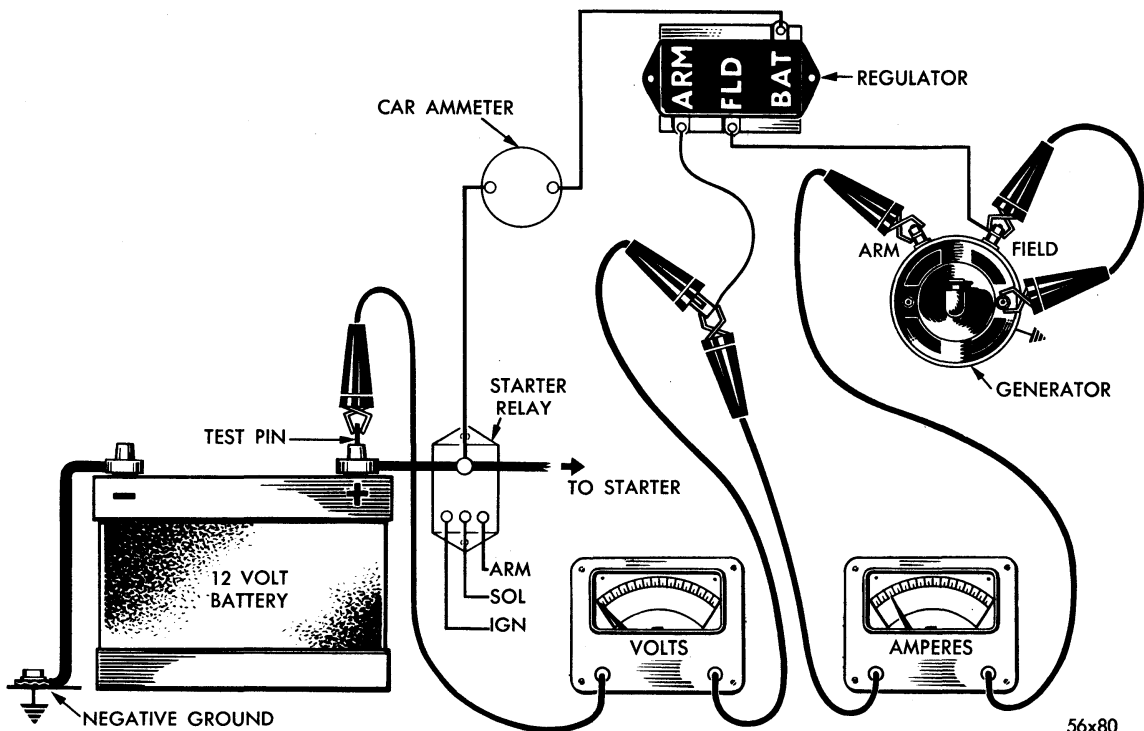

Fig. 6—Charging Circuit Resistance Test
18. CHARGING CIRCUIT RESISTANCE TEST (FIG. 6)
Connect test equipment, as shown in Figure 6. The ammeter is connected at generator and voltmeter is attached to armature lead so that any voltage loss in test ammeter will not register on voltmeter. Start engine, increase engine speed until 10 amperes register on test ammeter, and read voltmeter. The voltage shown will be voltage drop of charging circuit and should not exceed .50 volt. A voltage drop that exceeds .50 volt indicates high resistance from a loose connection, burned relay contacts or a partially broken wire. Where voltage drop exceeds .50 volt, a point-to-point check is required. Move one of voltmeter leads back along circuit toward other test lead connection, checking voltage at each terminal connection. A sudden drop in voltage indicates that high resistance is present between that point and last point tested. Clean relay contacts, tighten loose connections and replace damaged wiring.
Connect equipment, as shown in Figure 6, with exception of voltmeter leads. In output test, connect voltmeter from generator armature terminal post to ground. Increase engine speed while observing the meters. A generator that is in good condition should be capable of an output in amperes that will exceed rated output slightly: approximately 15 volts at 2,300 generator r.p.m.